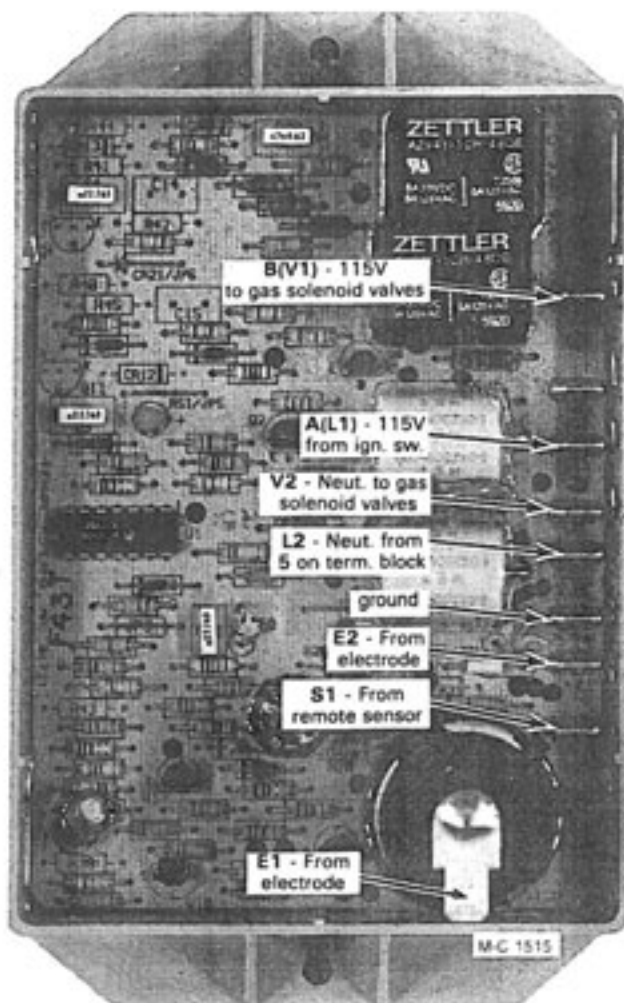

Figure 39
- A. Flip the ignition switch OFF. Remove the electrode wires from terminals E-1 and E-2 on the ignition board, See Figure 39.
5. Check to be sure that there is 115V power to the ignition board. Connect a voltmeter between terminal A (L1) and L2 on the ignition board, see Figure 39.
8. If there is 115V between terminal A (L1) and L2 check for 115V at terminal B (V1) on the ignition board, see Figure 39. Connect a voltmeter between terminal V2 and B (V1) on the ignition board.